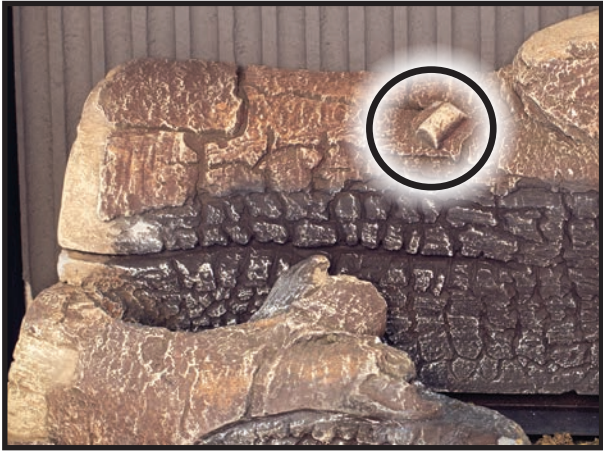
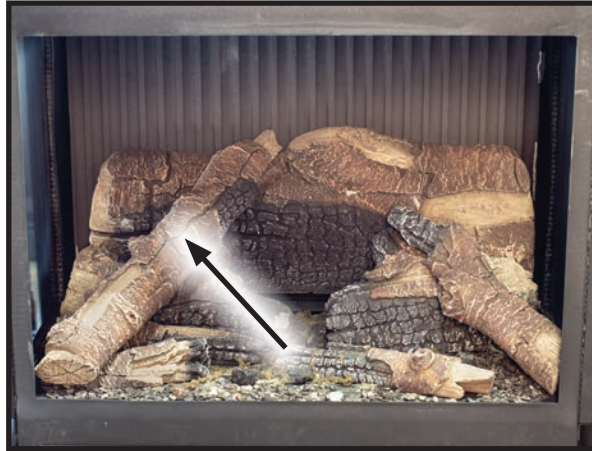

Figure 52. Log #8 Pin
Figure 53. Log #7 Placement
7. Finally, align Log #7 with the pin on Log #8 (Figure 52) and rest the bottom at an angle on top of Log #1 (Figure 53).